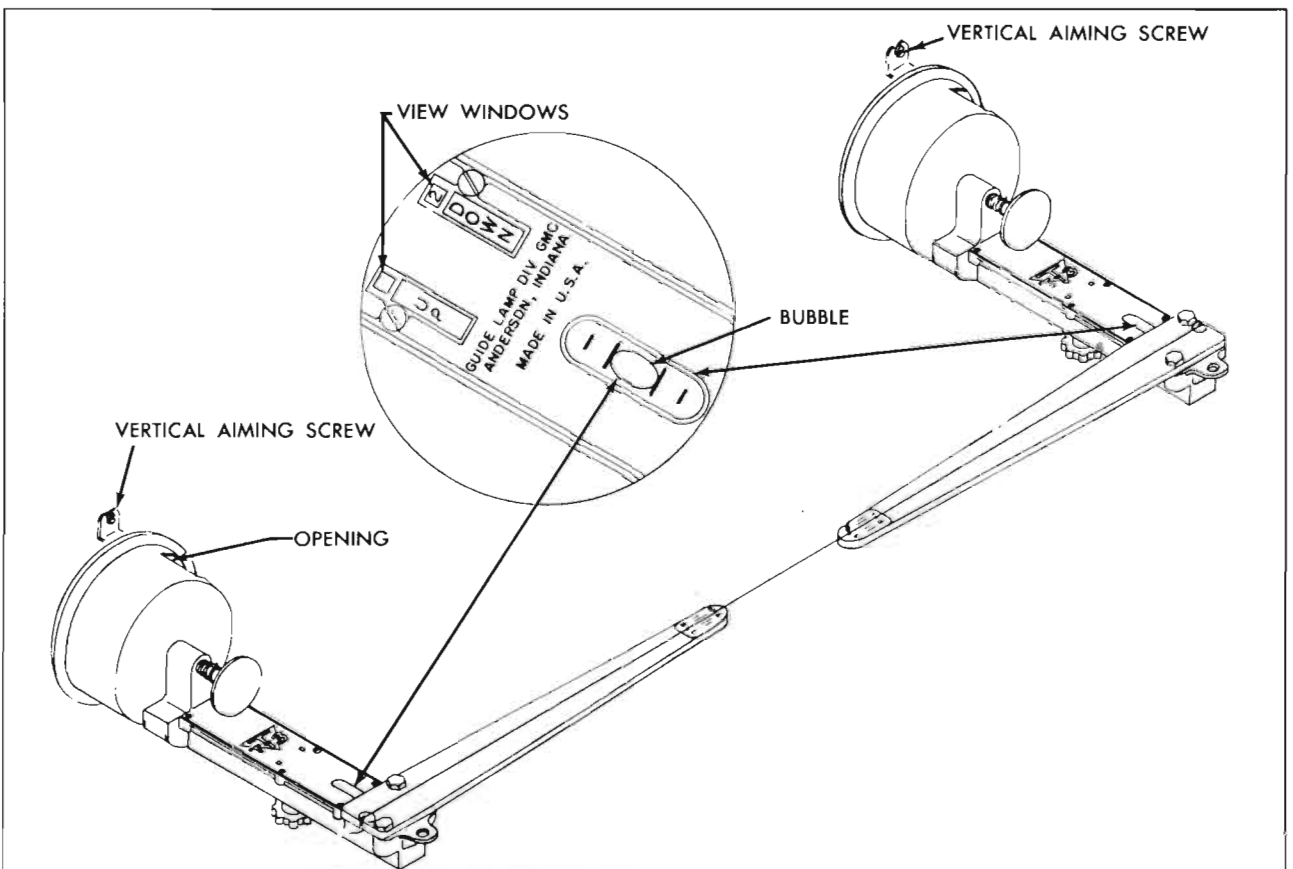

Figure 10-55—Adjusting Vertical Aim
1. Turn headlamp vertical aiming screw counter-clockwise until the bubble in level is at the end of vial toward headlamp unit. Then turn screw clockwise until bubble is centered in the level. See Figure 10-55.